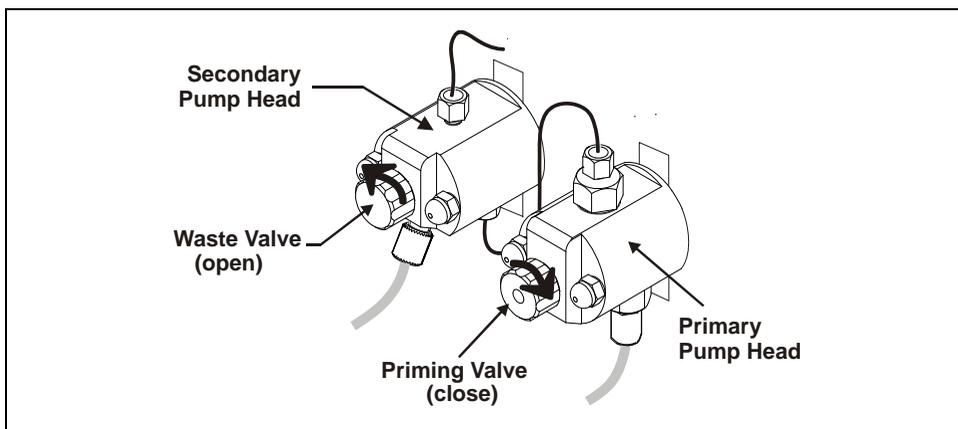

Figure 5-24. Priming the Pump
1. Check that the priming valve on the primary pump head is closed (see Figure 5-24).
2. Open the waste valve on the secondary pump head by turning the knob one-quarter to one-half turn counterclockwise (see Figure 5-24). Opening the valve directs the eluent flow path to waste and eliminates backpressure.